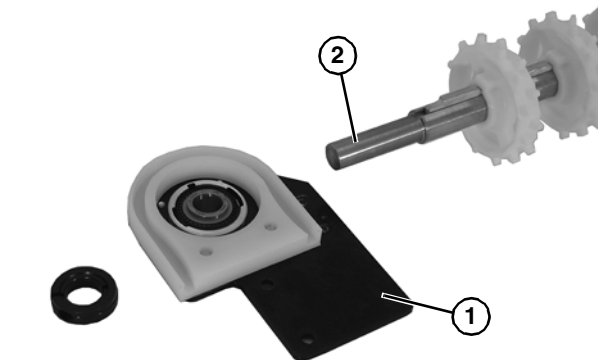

Figure 47
6. Remove end plate (Figure 47, item 1) from shaft (Figure 47, item 2).